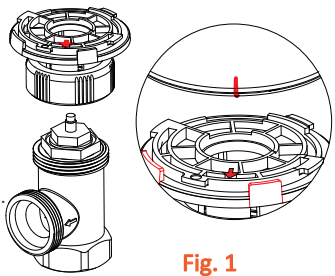

Fig. 1
Step 5: Connect the thermostat and the mounting board When "F1" stops flashing, find the "mark point" of the thermostat, shown *Fig. 1*.Turn clockwise to complete the connection between the thermostat and the mounting plate. After clicking the  (only once), the thermostat will display "F2". When "F2" disappears, while the screen remains on, turn the thermostat clockwise to adjust the screen to your liking direction.